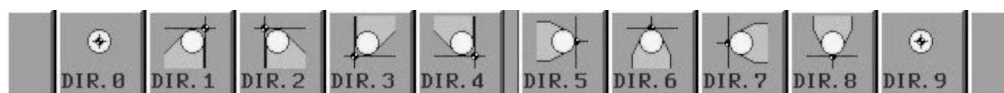

Figure 7-7 VIRTUAL TOOL TIP Soft Keys
3. Enter the Virtual Tip (VIRT.TIP) information. Use the graphical soft key guide, as shown in Figure 7-7, to identify the proper orientation setting. For example, OD Turning will be direction 3. Data for each tool used in the program must be completed or an error may result.